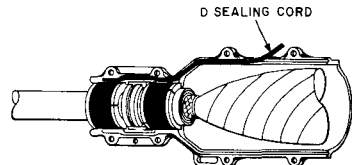

Fig. 20—Placing D Sealing Cord
3.30 Place sealing cord in the side grooves, being careful to avoid making flat spots or dents in the cord. **Do not stretch.** It may be necessary to push the B sealing tape away from the grooves at the ends in order to permit placing the  $\blacklozenge$ D $\blacklozenge$  sealing cord (Fig. 20). On Y or double-Y splice cases, place a 1-1/2 inch length of  $\blacklozenge$ D $\blacklozenge$  sealing cord in the crotch between the two inner and two outer seals on each end.